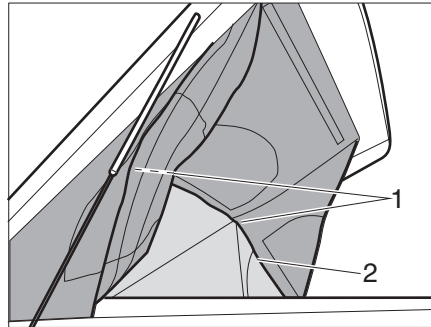

Fig. 9 Panorama function
- Open the zip (Fig. 9,2) all round the pop-up roof.
- Secure the side panels and front panel to the pop-up roof with Velcro (Fig. 9,1).